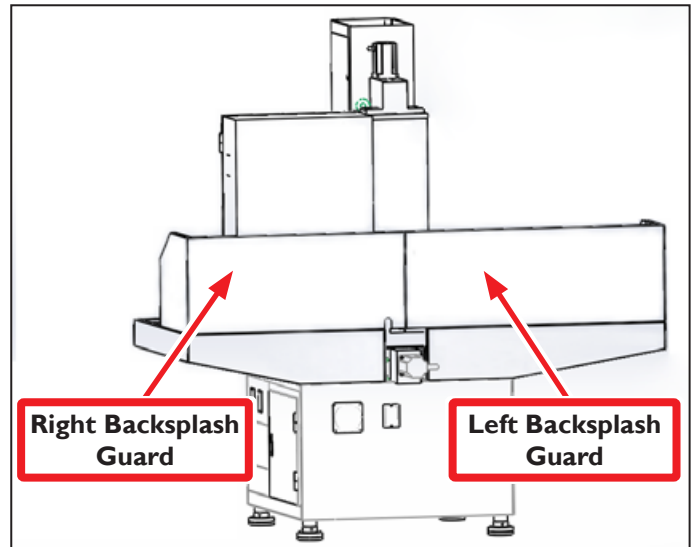

Figure 7
1. Position backsplash guards near stand and test fit; *Left Backsplash Guard* and *Right Backsplash Guard* are different (see **Figure 7**).